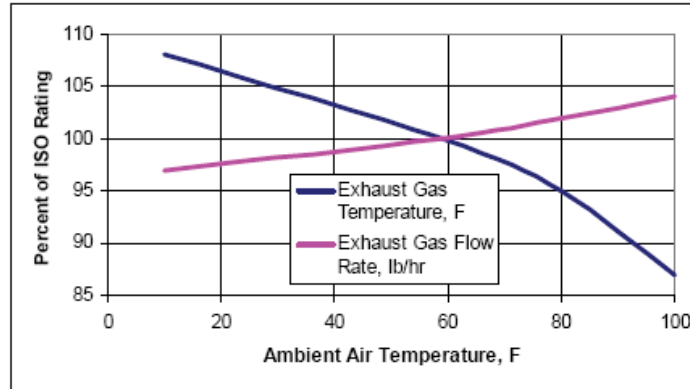

Figure A1-3 An Example of the Effect of Ambient Air Temperature on the Flow Rate and Temperature of Exhaust Gases
- **Figure A1-3** shows the effect of air inlet **temperature** on gas turbine **exhaust gas flow rate and temperature**